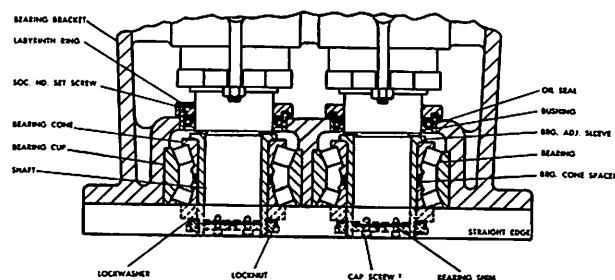

Fig. 11
18. Check that gear and bearing spacers (35) are flush. See Fig. 11. If necessary, grind one spacer to bring spacer faces flush.
20. Install outboard gear and bearing spacers (34).
21. Install front head roller bearing inner races (46).
24. Replace rear head gasket and rear head (3).
25. Replace front head gasket and front head (2).
26. Replace front head flinger (40). Allow the flinger to contact the front head, then move back about $\frac{1}{16}$ ". Secure in this position.
27. Position and secure the other four flingers (41).